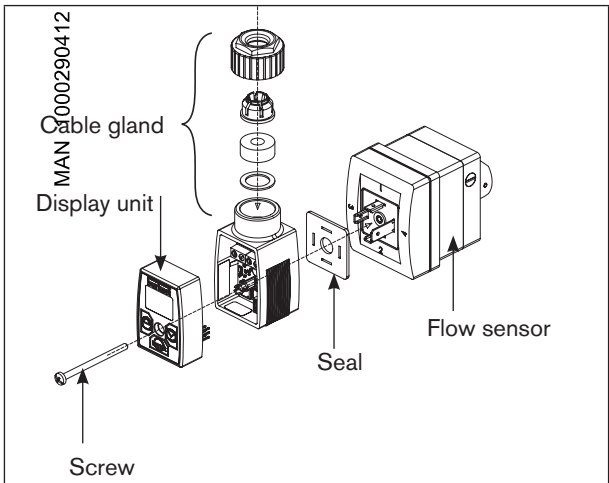

Fig. 10: *Installing the device on the sensor (example of a device with cable gland and display unit, mounted on a Type SE30 sensor)*
- Correctly position the device (see Fig. 10) and plug it on the 4-pin male connector of the flow sensor.